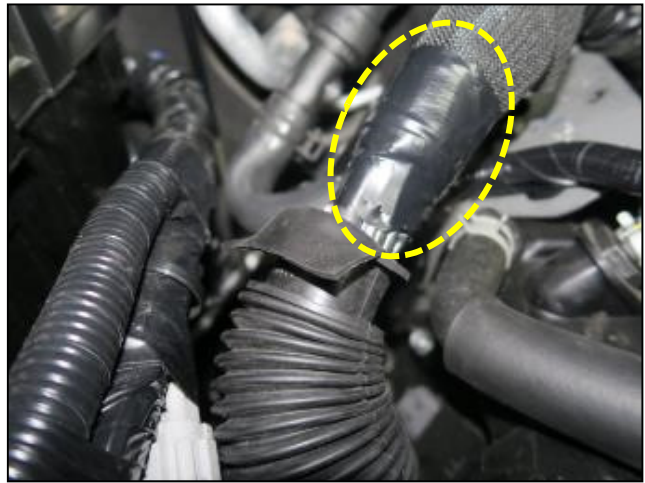

Figure 32
30. While holding the mesh harness protector in place, wrap the end of the mesh with the wide vinyl tape (M2306001) as shown in Figure 32.